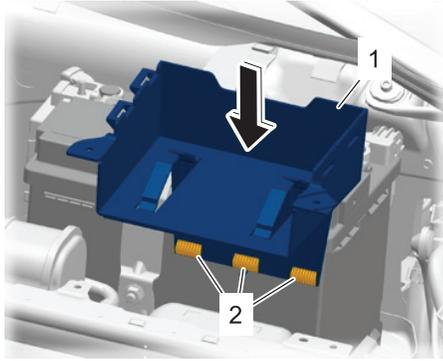
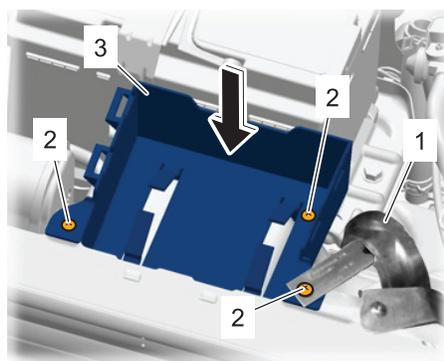

Fig. 10 Compressor holder position
Fig. 11 Compressor holder installation
6. Position holder for compressor so that clips (2) engage in battery retaining plate, **Fig. 10**.
8. Position alarm siren (1) as illustrated and install screws (2) on holder (3) for
9. Place compressor (1) into holder (2) for compressor, **Fig. 11**.